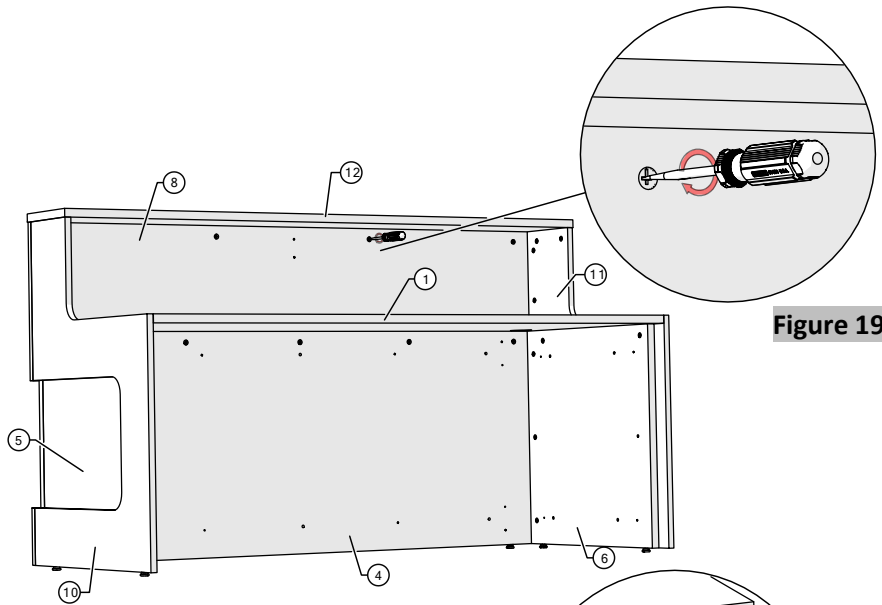

Figure 19
24. Turn the Cams using a screwdriver in a clockwise direction to smoothly lock the countertop, border-upper, border-gable LH, and border-gable RH together (Figure 19).